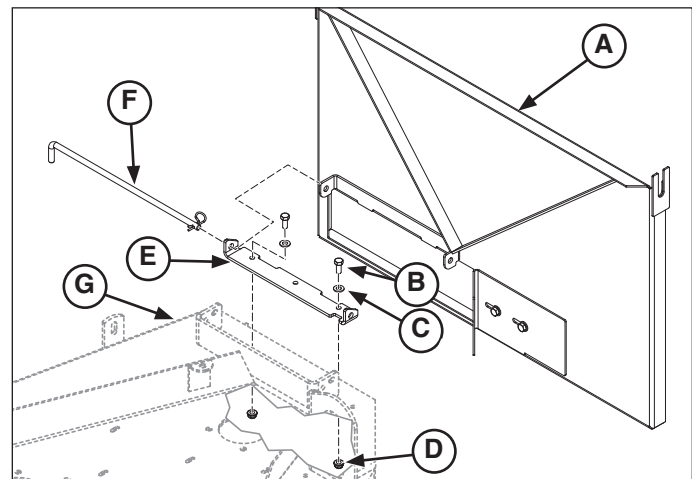

Figure 5. Installing the Bagger Mount
1. Install two (2) 5/16" bolts (B, Figure 5) with 5/16" washers (C) through the bagger mount bracket (E) and then through the mower deck (G). Secure with two (2) 5/16" nuts (D).
2. Install the quick disconnect rod (F) through the bagger mount bracket and then through the bagger mount (A). Secure with the hair pin.